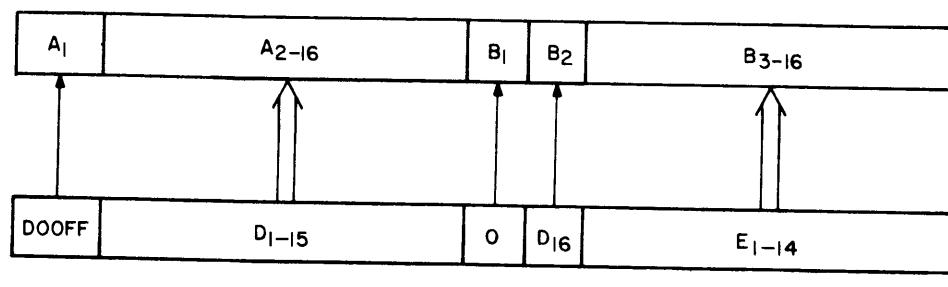

Figure 5. Forming the Product, MADFF Reset
Assume that the contents of the shift register are now equal to octal 77. This causes the sign of the remainder to be stored in the A00FF and the B-register to be shifted left. The B-register, but not the A-register, is shifted to fill the previously ignored bit 1 position of the B-register. Next, the remainder is examined (REMOK). Either of two conditions leads to the setting of the MADFF. They are $(D) = 0$, or $(D)_1 = (AZ) = 0$. Figure 5 illustrates the possible combinations of remainder and dividend and the action required, if any, to terminate in a proper divide.